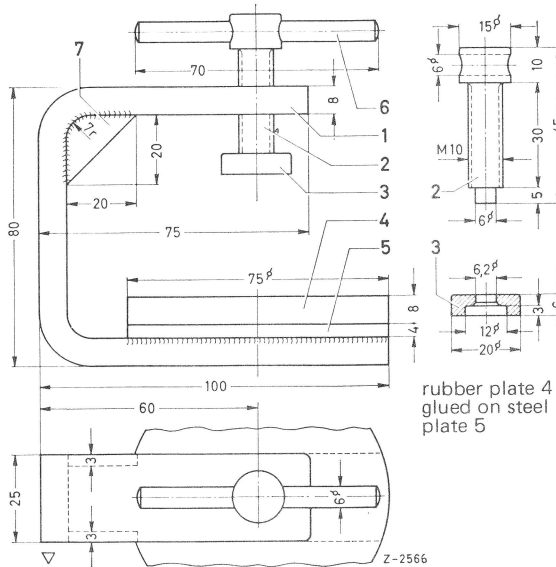

Fig. 7
Clamping device for piston	self-made according to Fig. 7
Note: Holding device (21) is self-made according to dimensions in Fig. 7.